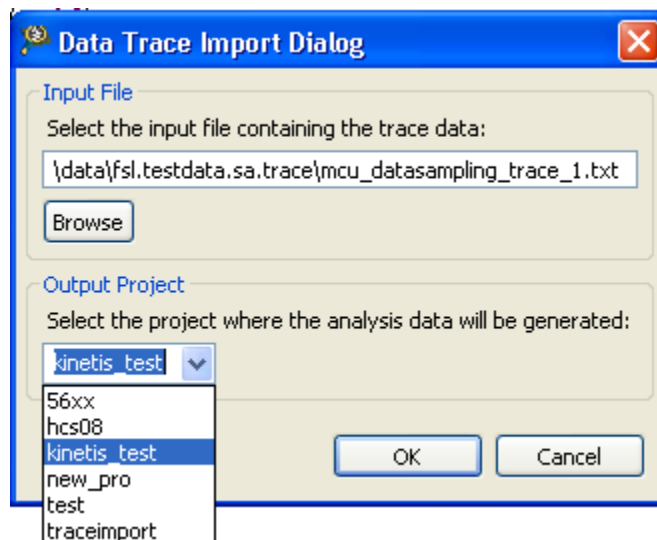

Figure 3-28. Data Trace Import Dialog Box
- Click the **Import Data Trace from text file** button to import an external format of trace into your project. The **Data Trace Import** dialog box (Figure 3-28) appears. For more information, refer Data Trace Import Dialog Box.